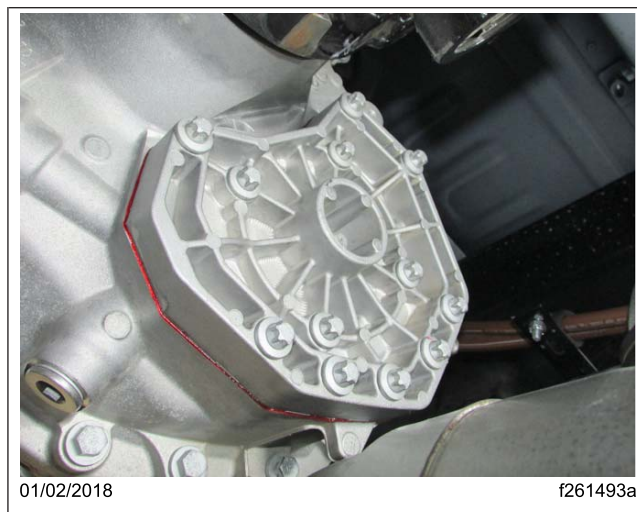

Fig. 14, Pump Cover Installed
11. Install the pump cover (**Fig. 14**) and tighten the capscrews 37 lbf-ft (50 N·m).